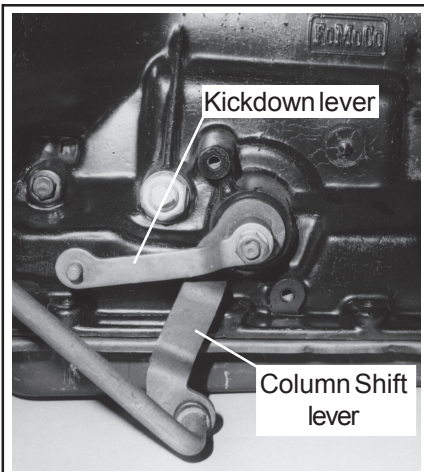

Figure 1
**STEP 3.** Disconnect vacuum line to vacuum modulator. Disconnect kickdown linkage. (See Figs. 1&2) Remove clip holding rod or cable to kickdown lever and allow rod or cable to hang free. Disconnect shifter:
**Column Shift Models:** Disconnect rod or cable from shift lever on transmission. (See Fig. 1) The rod or cable is retained by a clip or by snapping into a plastic grommet. Remove clip or pry rod out of grommet and allow linkage to hang free. Cable models; unbolt cable bracket from bell housing and allow cable to hang free.
**Column Shift Models:** Connect rod or cable to shift lever on transmission. (See Fig. 1) Snap rod into grommet retainers by squeezing rod and lever together with a pair of pliers. Connect rod or cable to clip retainer levers and install clip.